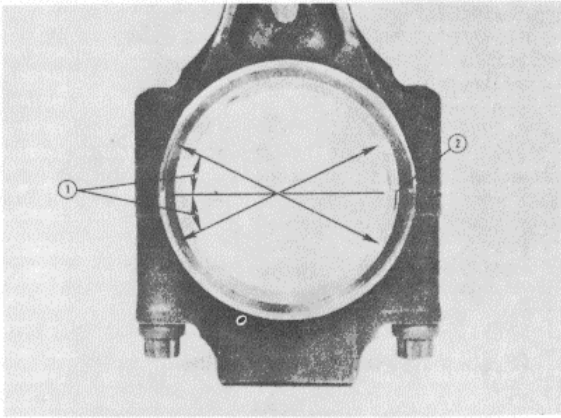

Figure 16C-25. Connecting Rod Wear Limits
4. Measure the piston pin bushing diameter with the dial bore gauge. See Table 16C-1 (1.1), Figure 16C-26.